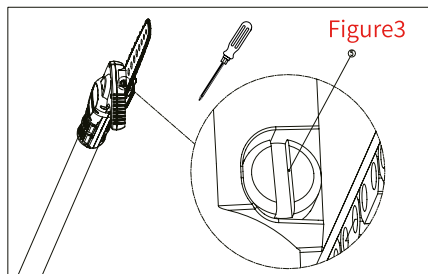

Figure3
- (4) Figure 3, chain tension adjustment screw ⑤;
- (4) Figure 3, Loosen the chain tension adjustment screw (3);
- (4) As shown in Figure 3, unscrew the screw with a screwdriver, remove the screw and sealing ring (3), align the oil bottle nozzle with the hole (4), fill 15~20 ml of gear grease at the same time (it is recommended to fill it once every 20~30 days) and assemble it according to the disassembly method after filling the oil;